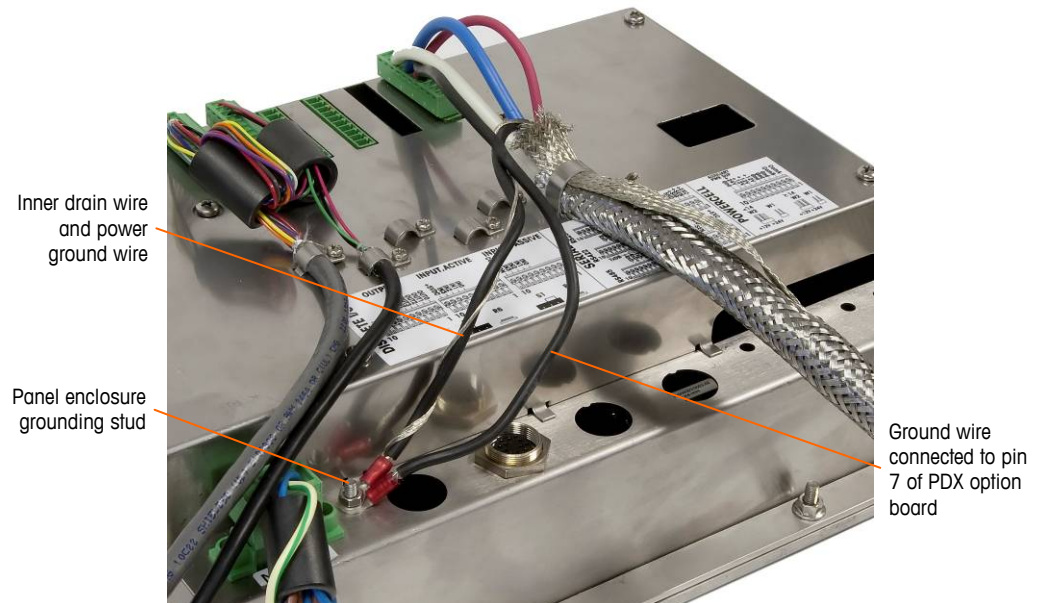

Figure 2-48: Completed PDX Home Run Power Ground Connection, Panel Mount Enclosure
6. For an IND780 panel mount enclosure, make the terminations described in step 5 to the external ground stud indicated in Figure 2-48.